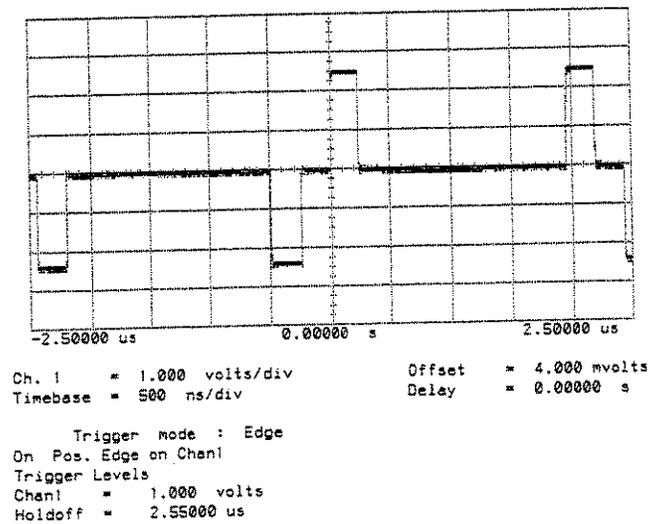

Figure 8-11 Tx DATA (10000 WORD HDB3)
22. Check that the displayed waveform is as displayed in Figure 8-11